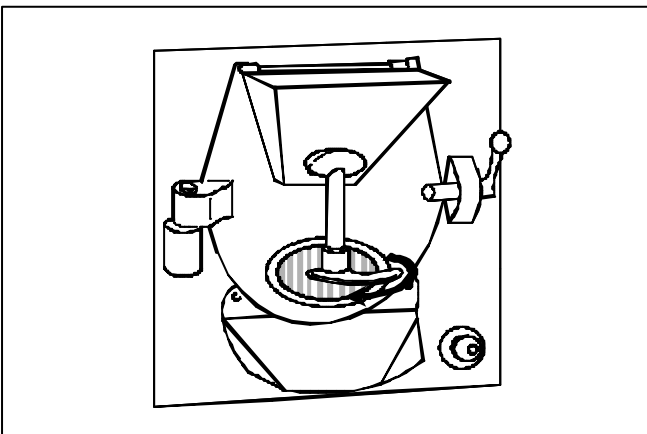

Figure 6
- Turn the handle 90° to the left (ref Fig. 6).